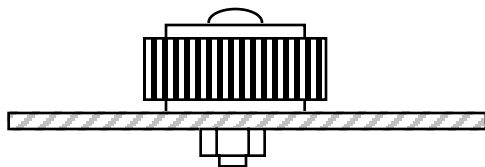

Figure 7-1
- ☐ Secure L1 loosely to the PC board as indicated by its component outline, near J6. As shown in Figure 7-1, use *two* nylon washers, a 1/2" (12 mm) nylon screw, and nylon 4-40 nut.